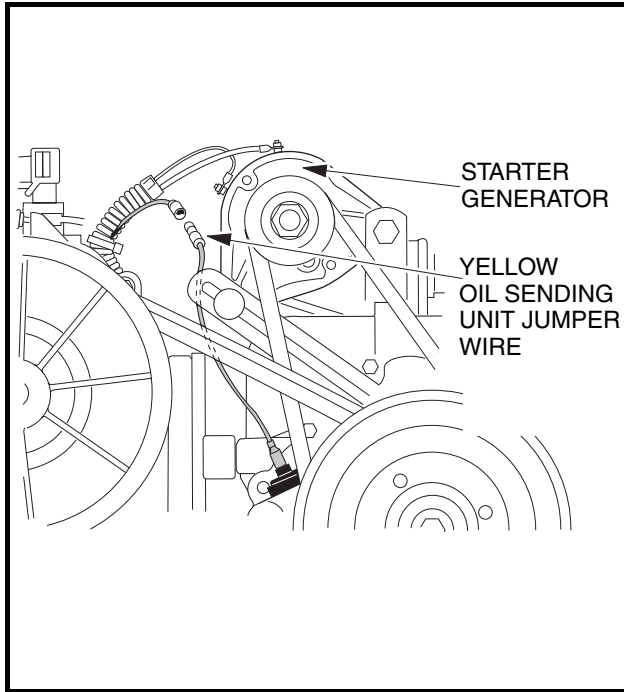

Figure 18-17 Oil Level Sensor Jumper Wire
- 4.9. Disconnect the engine oil level sensor wire (18-gauge yellow) at the connector just to the rear of the starter/generator) (**Figure 18-17, Page 18-9**).